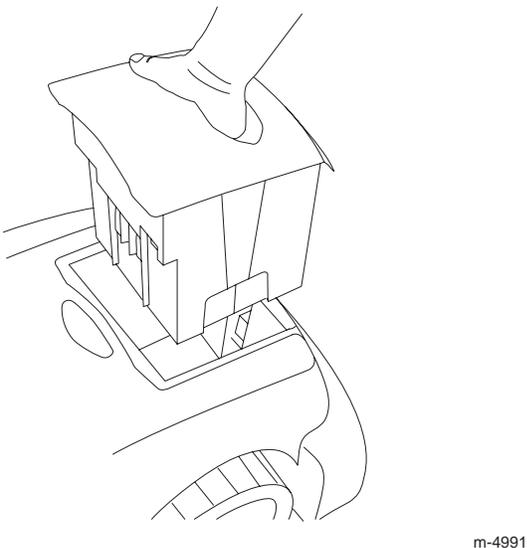

Figure 16
Insert the battery pack into the battery pack compartment (Fig. 16). The lawn mower immediately turns on and activates the display.
1. Remove the battery pack (Fig. 16).